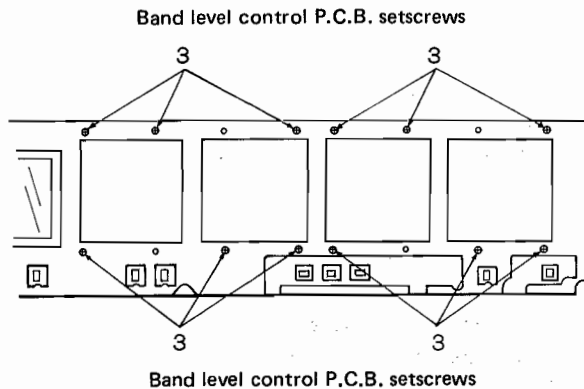

Fig. 12
3. Remove the 12 screws shown in Fig. 12 to remove the P.C.B. (It can be removed together with the knobs.)